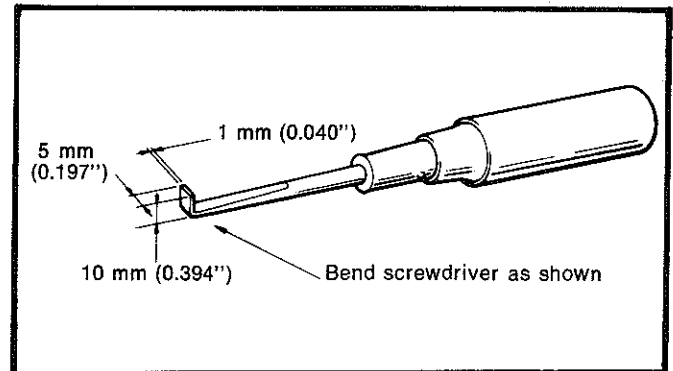

Fig. 19—Modified screw driver dimensions
(1) Apply a mixture of soap and water to the moulding groove in the weather strip.
(2) Modify a screw driver or suitable piece of steel to the dimensions shown in Fig. 19.